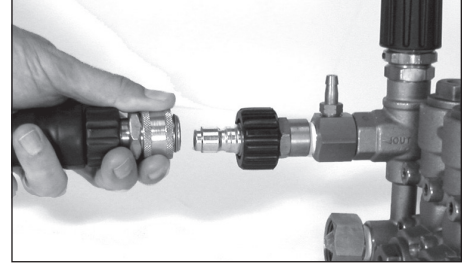

Figure 13 - Connect high pressure hose to pump
5. Connect the high pressure hose to the pump outlet (See Figure 13).